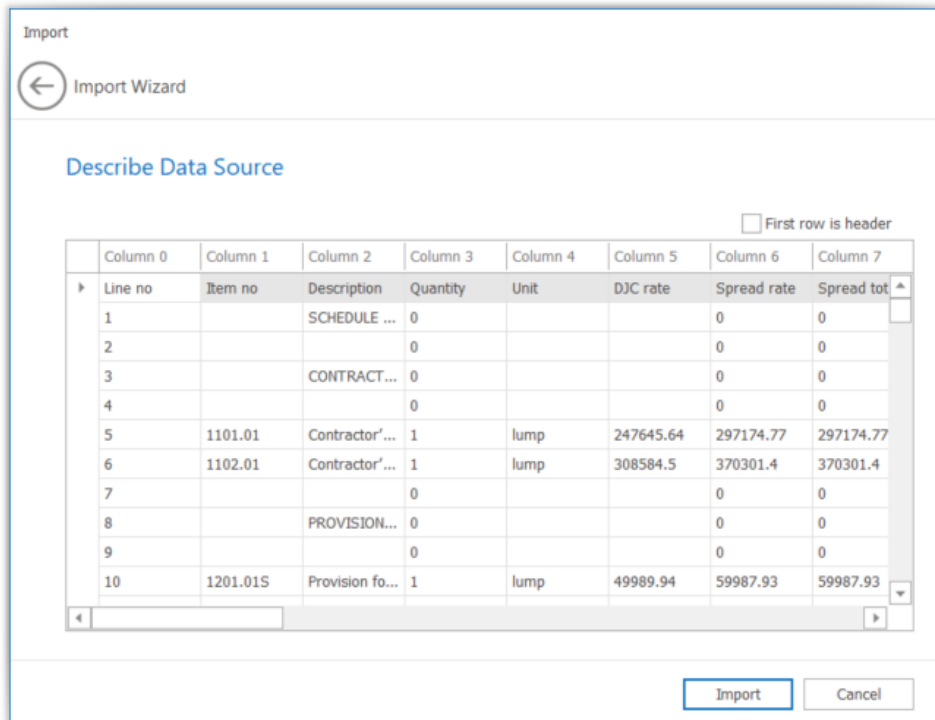

Figure 4 Import Wizard after opening CSV
1. Select all of the Schedule A items and select *Schedule Operations* => *Prepend Characters* from the Context Menu. You will be presented with the form in Fig 4. Enter an A into the box, and make sure the *Include sub Items* check box is checked. Click *OK*.